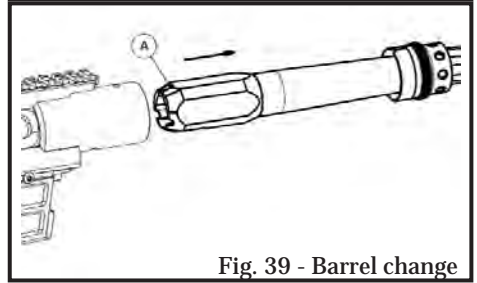

Fig. 39 - Barrel change
4. Slide the new barrel assembly onto the receiver. A guiding slot (A, Fig. 39) in the barrel extension and in the expansion ring should be pointing to the top of the receiver. Two pins inside the top of the receiver guide the barrel assembly into the right position.